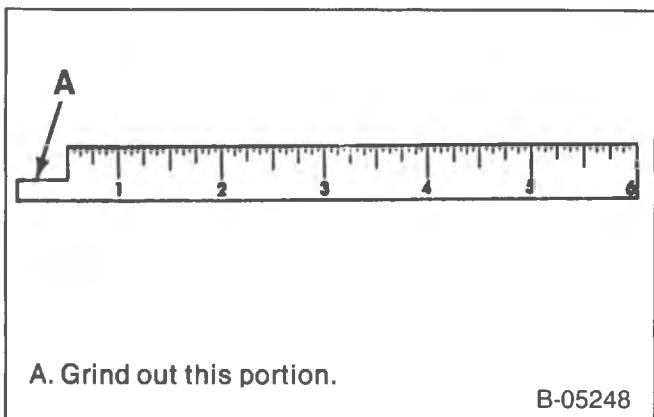

Figure 40—Scale for Checking Valve Spring Installed Height
- 1. Use a narrow, thin scale. A cutaway scale (figure 40) may be helpful.